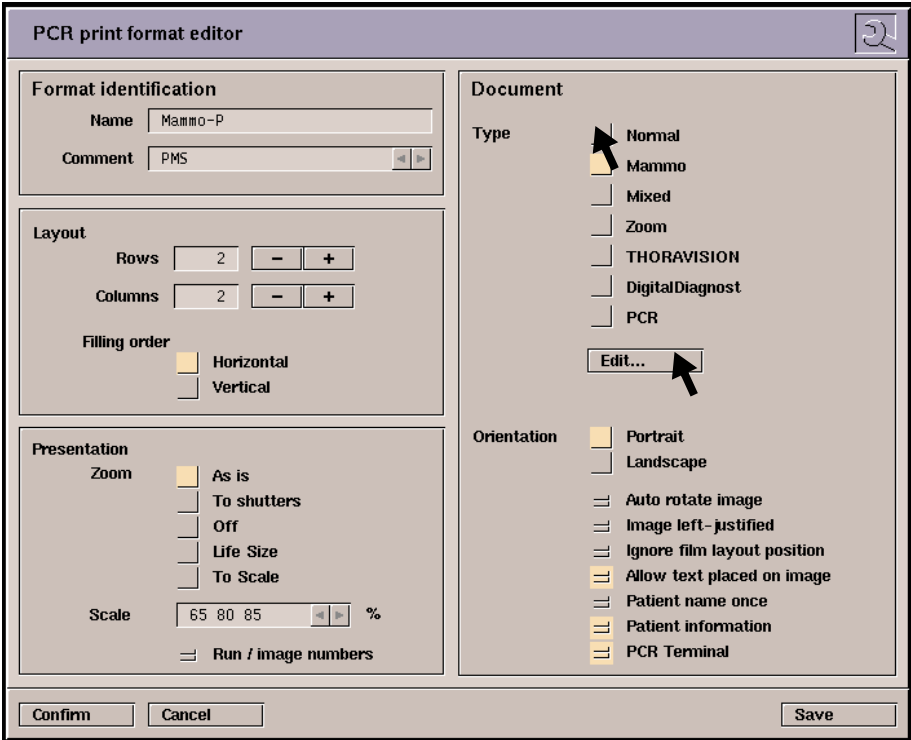

Fig. 8.27 Edit film labelling
- 3 Click 'Save'. You will only be able to see the result of your editing in Print Preview if you have also clicked the 'Save' button in the 'PCR print format editor' window (see Fig. 8.27).
- 3 Click on 'Save'. You will only be able to see the result of your editing in Print Preview if you have also clicked the 'Save' button in the 'PCR print format editor' window (see Fig. 8.27).